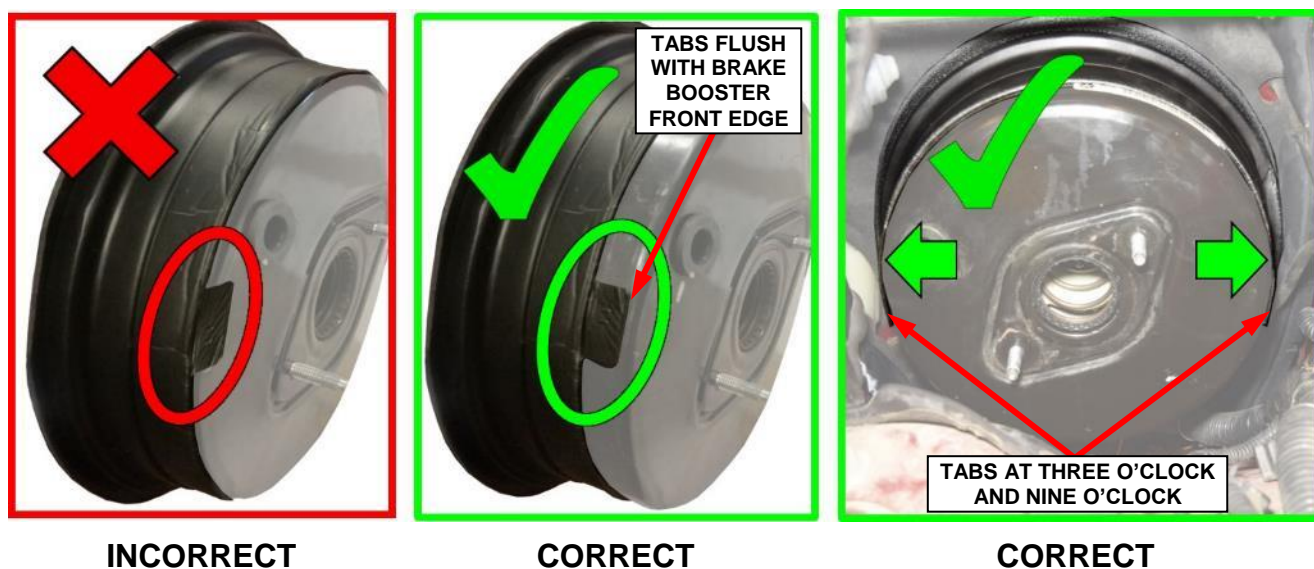

Figure 13 – Inspect Brake Booster Water Shield for Proper Installation
15. Is the brake booster shield properly installed? Refer to (Figure 13).